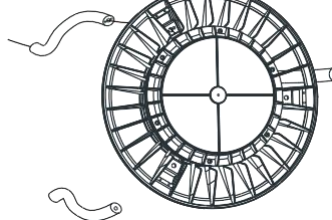

Figure 2
2. The threading rod corresponds to the hole to thread the power cord (Figure 2)